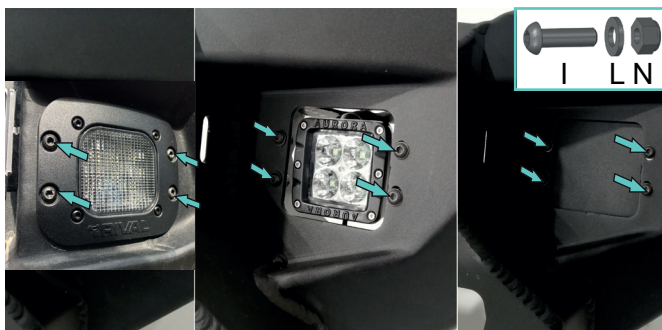

Fig.41
41. Install LED lights or LED Light caps (item 20), using screw M6x20, washer 6 and nuts M6 (item I, L, N) (fig.41).